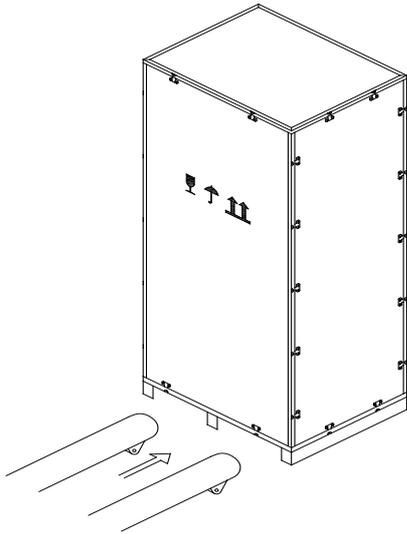

Fig. 14. Transport to the designated site
2. Transport the equipment to the designated site by forklift, as shown in Fig. 14.